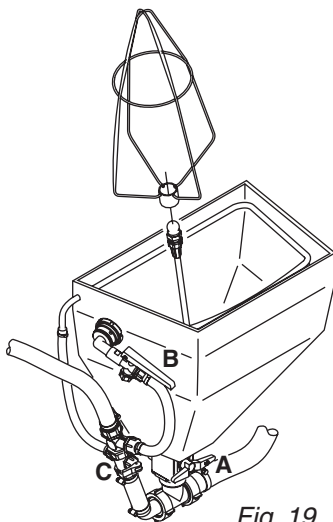

Fig. 19
8. Open the bottom valve **(A)** (Fig. 19) on the HARDI® CHEMICAL FILLER and open the lid.
9. Engage the hopper rinsing device by opening valve **(C)** (Fig. 19).
11. If the chemical container is empty, it can be rinsed by using the Bag & Bottle Rinse (optional). Fit the bag bracket and place the powder bag over the multi-hole nozzle and press the lever **(B)** (Fig. 19).
WARNING: Do not press lever **(B)** (Fig. 19) unless the multi-hole nozzle is covered by a container to avoid spray liquid hitting the operator.
12. Close valve **(C)** (Fig. 19) when the hopper is rinsed.
13. Close valve **(A)** (Fig. 19) and the chemical hopper lid. Turn the bottom black manifold valve back to MAIN TANK (if flush tank was used). Finish filling main tank with clean water to desired amount. When the spray liquid is well mixed, it may be sprayed on the crop. Leave the agitation valve at maximum agitation so the spray liquid is continuously agitated while spraying.